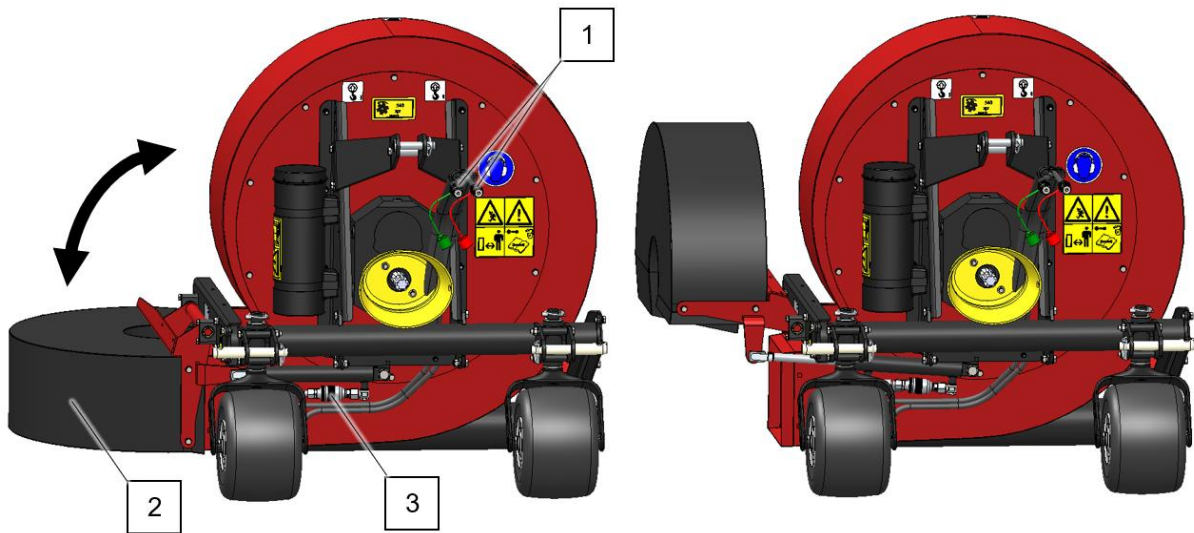

Fig. 8
By using the hydraulic connection (1), the position of the reverse spout (2) can be defined (Fig. 8). As a result, air is blown out to the left, right, or both sides of the machine.